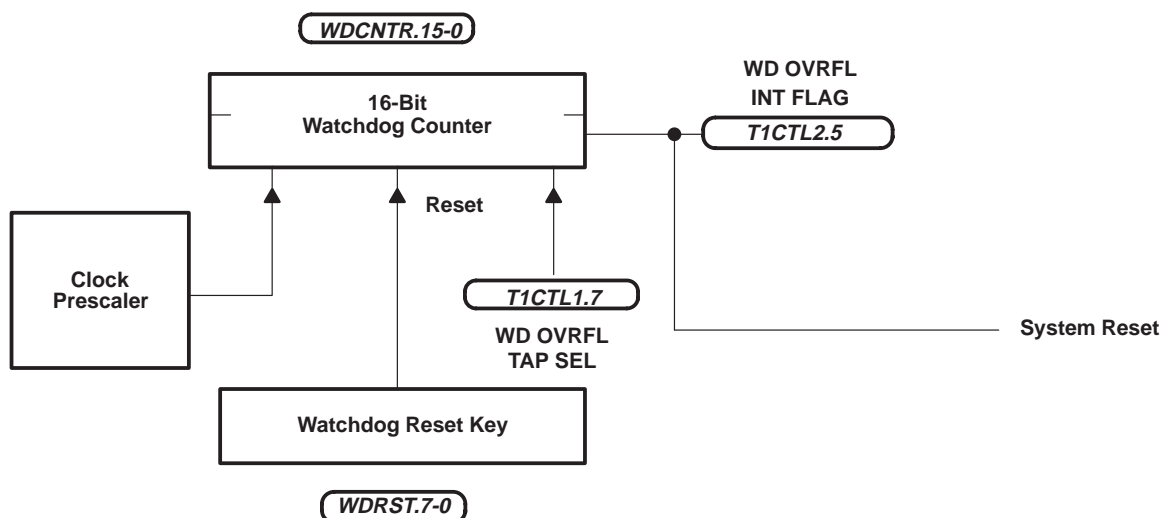

Figure 9. Hard Watchdog
- Hard watchdog configuration for mask-ROM device only (see Figure 9)